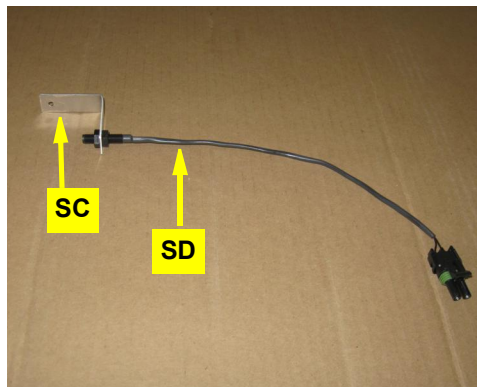

Figure 1c: Sensor installed in sensor bracket
- c. Connect sensor **SD** to sensor bracket **SC** (Figure 1c).